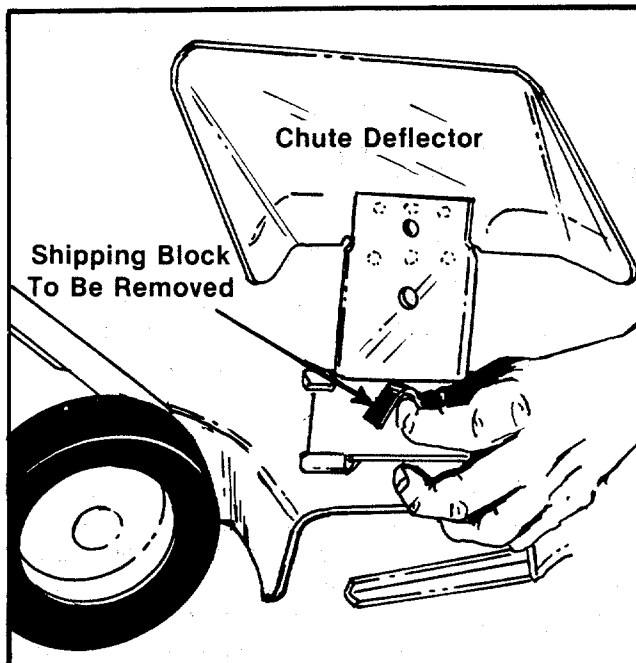

FIGURE 6.
- Please note that the chute deflector on your mower is in an upright position. It is held in that position by a shipping block. This block is used for shipping purposes only. It must be removed and discarded before your mower is put into operation. See figure 6.